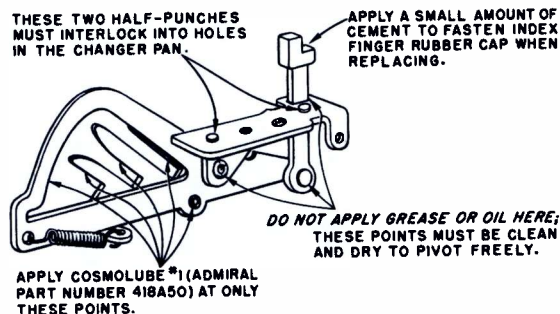

Figure 10. Set-Down Index Assembly.
Before lubricating the set-down index (69), see figure 10. Grease or oil must not exist at certain points of the set-down index. This assembly must be clean and dry at these points in order to pivot freely of its own weight.
Although the set-down index is factory assembled and requires no adjustment, some care is required when it is being replaced. The top surface of the set-down index bracket mounts to the changer pan and is positioned by two $\frac{1}{8}$ inch diameter half-punches which interlock in holes in the changer pan. A #6-32 machine screw secures the set-down index in place. See figure 10.